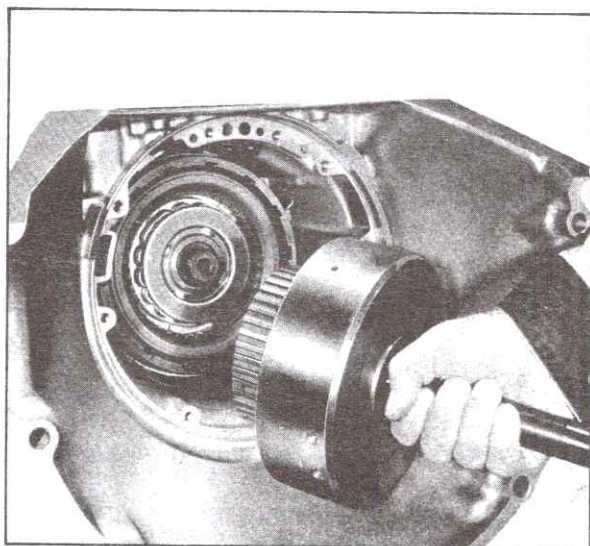

Fig. 7-42 Removing Forward Clutch Assembly
1. Remove turbine shaft and forward clutch assembly from transmission, Fig. 7-42.